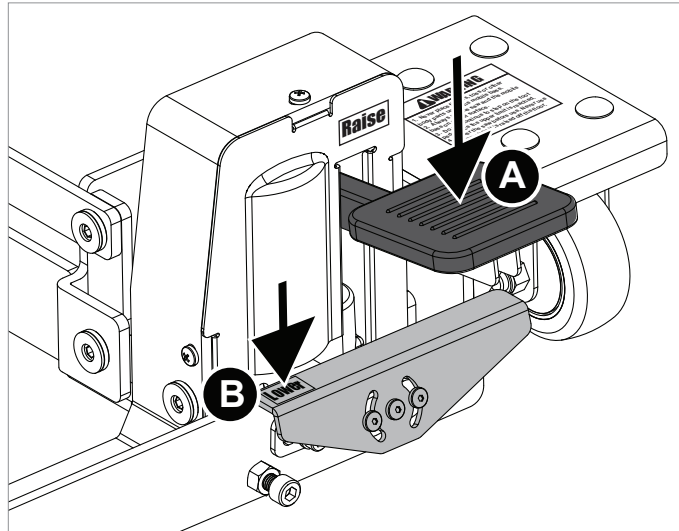

Fig. 3
1. To move your saw with the mobile base, step down on the foot pedal (A) several times to raise the saw off the floor and onto the wheels (see Fig. 3). Do not raise the saw higher than necessary to move it. Instead, raise the saw only enough to provide sufficient ground clearance. Do not continue to step on the foot pedal once the upper limit is reached.
3. Step down on the left side of the release lever (B) to lower the saw back to the floor (see Fig. 3).